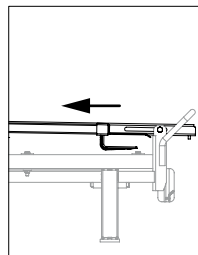

Fig. A7.07a
1. Pull out guardrail (62.1) horizontally. (Fig. A7.07a)